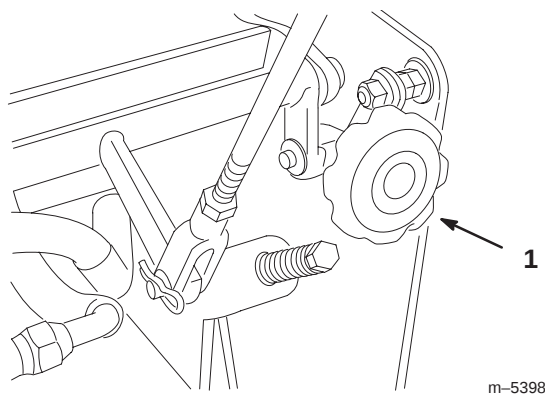

Figure 43
4. If the unit tracks to one side or the other, turn the quick track knob . Turn the knob right to steer right and turn the knob left to steer left (Fig. 43).